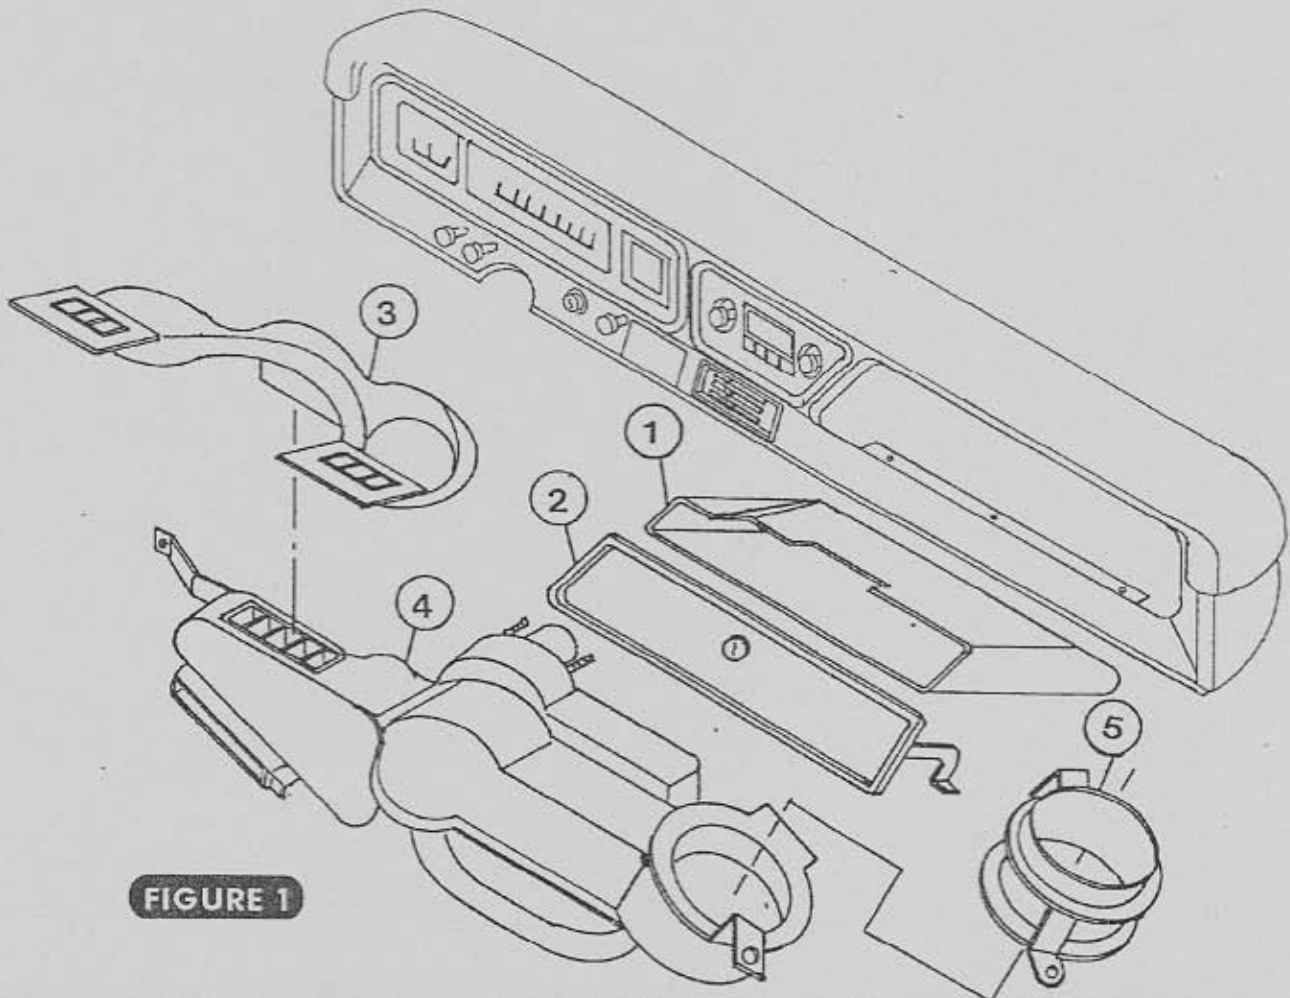

FIGURE 1
- FIGURE 1
AS SHOWN IN FIGURE 1 BELOW.